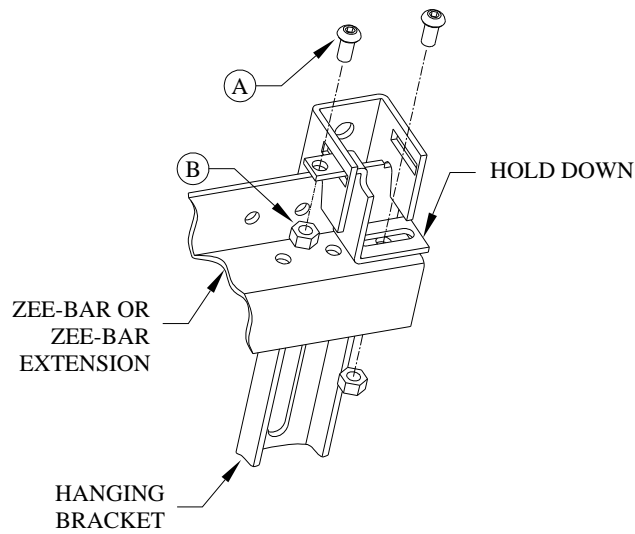

Figure 3
3. Attach the Hold-Downs. See Figure 3.